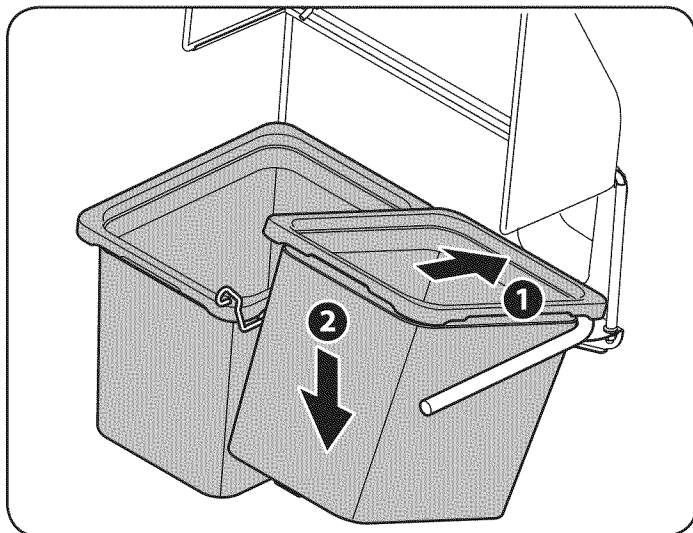

Figure 12
7. Install the bags onto the mounting frame as shown in Fig. 12 in the Operation section. Simply place the leading edge of the bag onto the front frame rail, then rock the bag backwards and down into place.
4. To reinstall the grass bags, insert the leading edge onto the bagger mount assembly (1 in Fig. 12), and pivot the grass bag rearward and down as shown in 2 of Fig. 12.